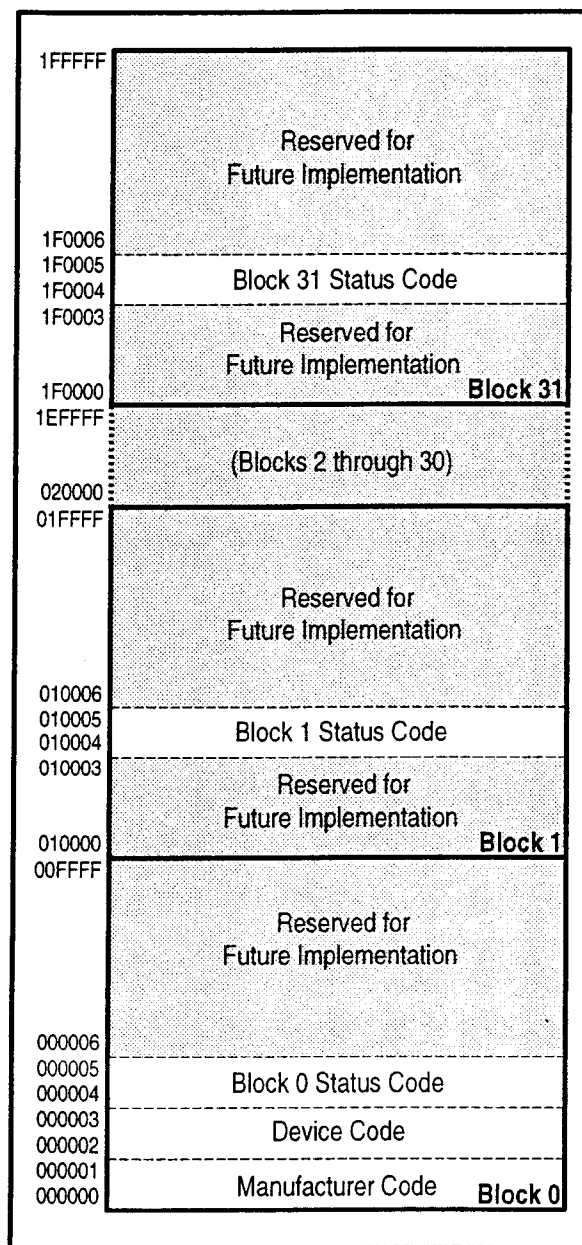

Figure 4. Device Identifier Code Memory Map
The read identifier codes operation outputs the manufacturer code, device code, block status codes for each block (see Figure 4). Using the manufacturer and device codes, the system CPU can automatically match the device with its proper algorithms. The block status codes identify locked or unlocked block setting and erase completed or erase uncompleted condition.
IA=Identifier Code Address: see Figure 4.
The identifier code operation is initiated by writing the Read Identifier Codes command. Following the command write, read cycles from addresses shown in Figure 4 retrieve the manufacturer, device, block lock configuration and block erase status (see Table 5 for identifier code values). To terminate the operation, write another valid command. Like the Read Array command, the Read Identifier Codes command functions independently of the  $V_{PP}$  voltage and  $RP\#$  must be  $V_{IH}$ . Following the Read Identifier Codes command, the following information can be read:
1. X selects the specific block status code to be read. See Figure 4 for the device identifier code memory map.